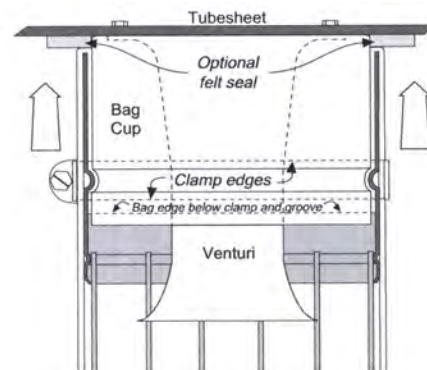

FIGURE 3
4. Slide the bag/cage combination over the bag cup which is below the tubesheet. The bead on the inside of the cage (the back of the groove) should be squarely in the groove of the bag cup with the fabric of the bag between the cage top and the bag cup (see figure 3).